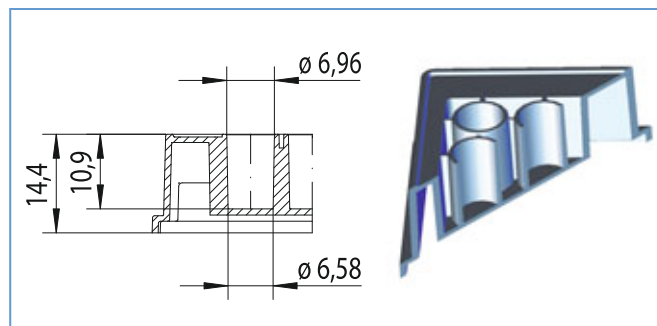

Figure 4:
4. F-Bottom / Chimney Well (Fig. 4)